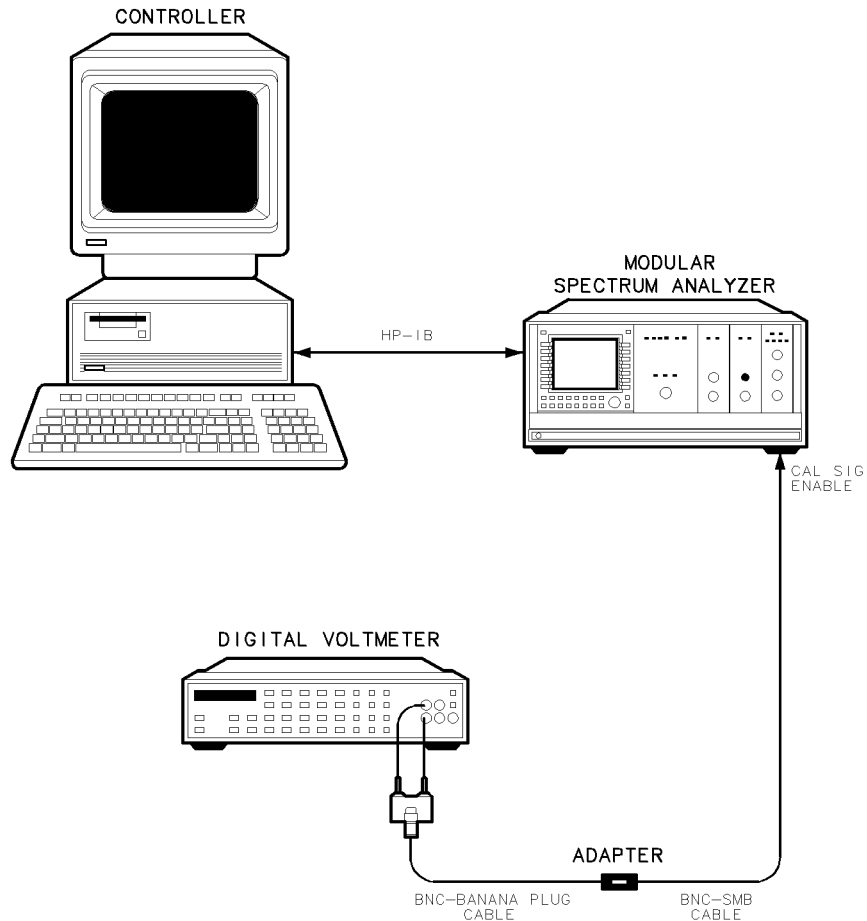

Figure 3-1. Calibration Switch Signal Test Setup
1. Connect equipment as shown in Figure 3-1. Connect the DVM to the HP 70590A's rear panel CAL SIG ENABLE connector.